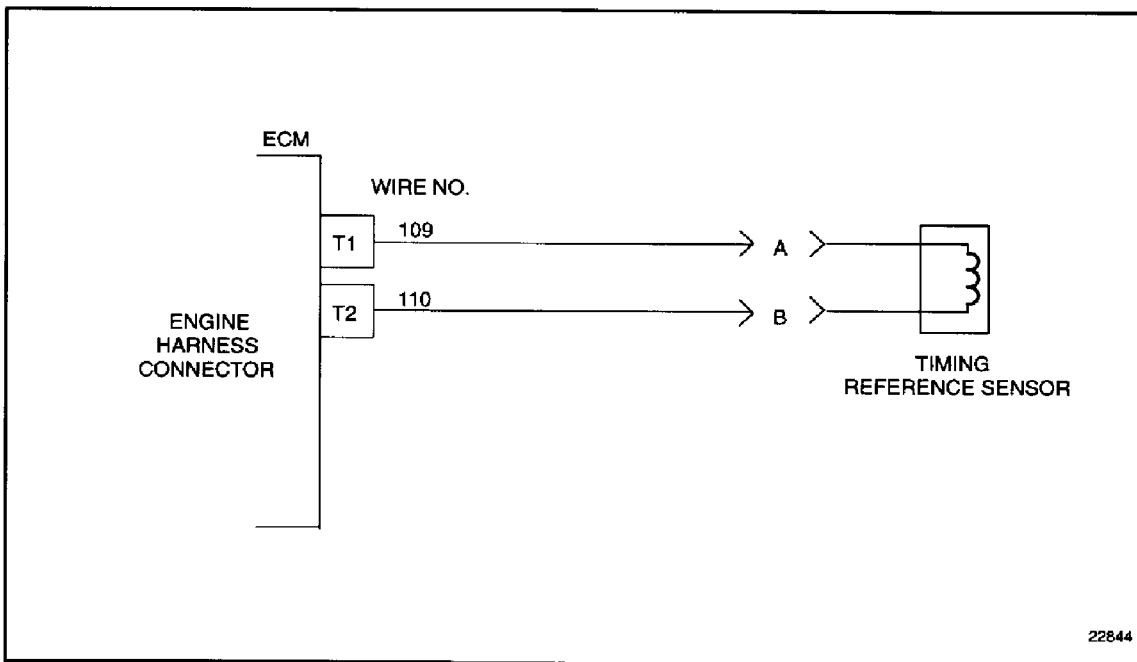

Figure 42-9 Engine Harness Connector to Timing Reference Sensor
1. Check terminals at the TRS (both the TRS and harness end) for damage: bent, corroded, and unseated pins or sockets or bad contacts. See Figure 42-9.